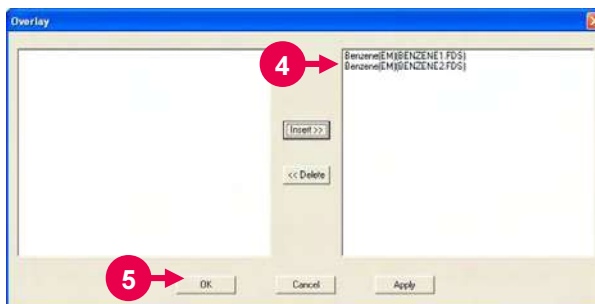

Fig. 7-21
- (6) The selected sample name will be added as shown in Fig. 7-21. (Refer to ④ in Fig. 7-21.)
- (7) Click **OK**. (Refer to ⑤ in Fig. 7-21.)